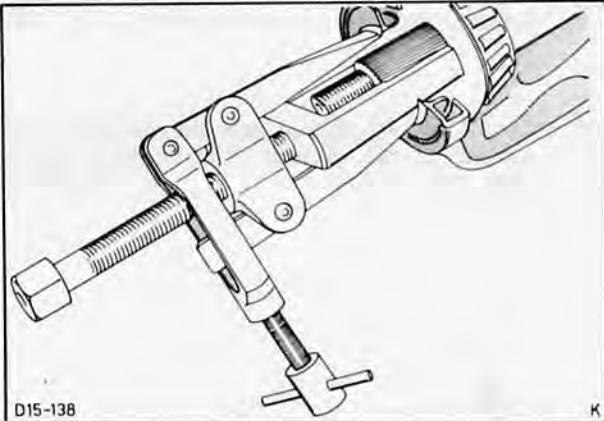

Fig. 131. Remove seal with special tool no. 15-048
6. Remove oil seal using Special Tool, Fig. 131.